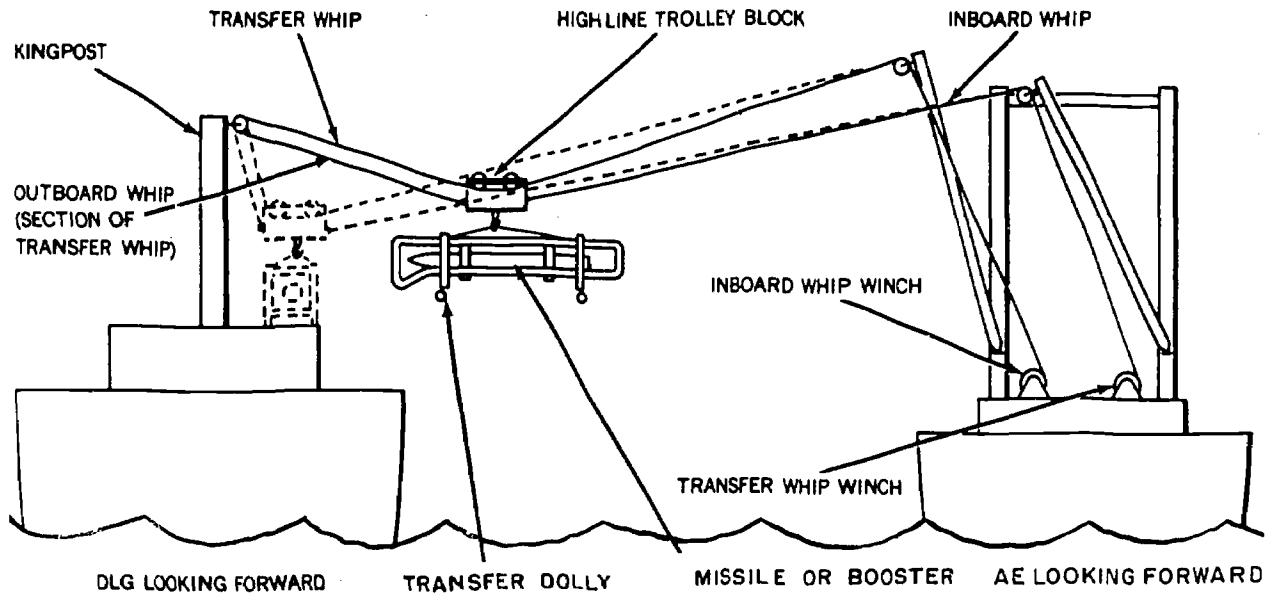
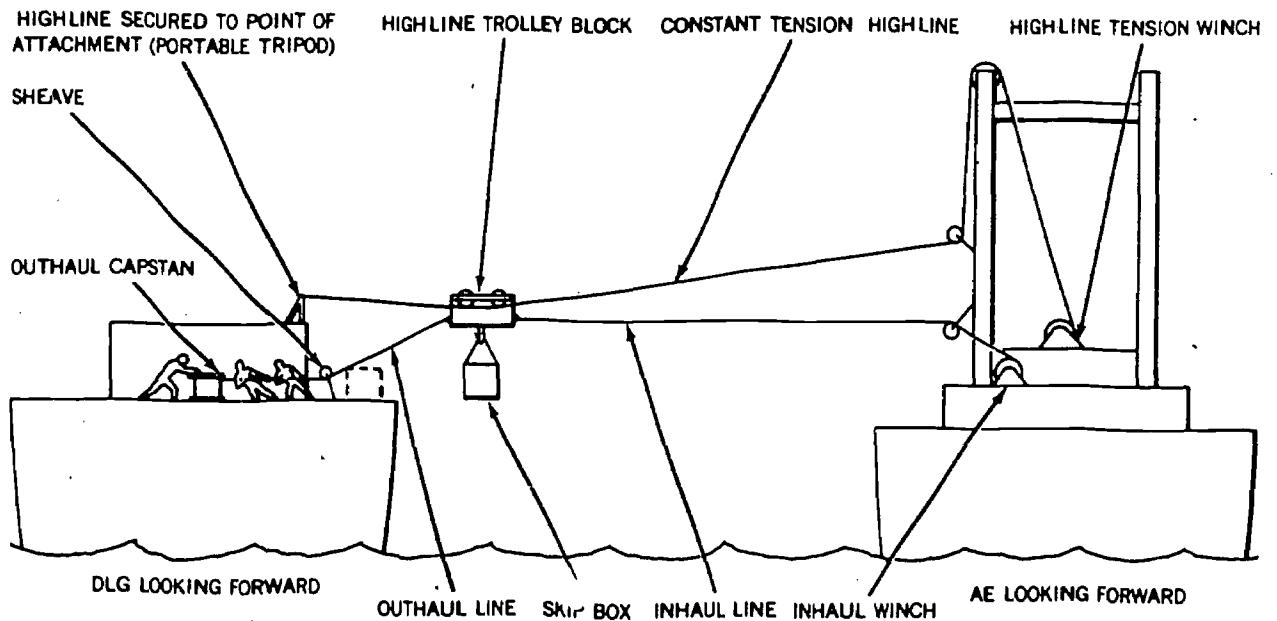

Figure 2-4.—Modified housefall transfer method.
Figure 2-5.—Constant tension highline transfer method.
**TRANSFER AT SEA.**—For underway transfer from an ammunition ship (AE), both Modified housefall (fig. 2-4) or the burtoning method, and constant-tension highline rigging (fig. 2-5) are required if the STREAM system is not installed on both ships. The modified housefall rig may be used to land the boosters and missiles on the topside replenishment area, though a tensioned highline or burtoning are preferable. The highline is used to land the com-
Constant tension on the highlines wires is maintained by a winch on the ammunition ship or by a counterweight or ram tensioner. Loads are placed in a skip box hooked to a trolley block (fig. 2-5) on the wire highline. When the skip box is lowered to the ship's deck, the contents are removed, and the empty skip box is returned to the AE by the highline.